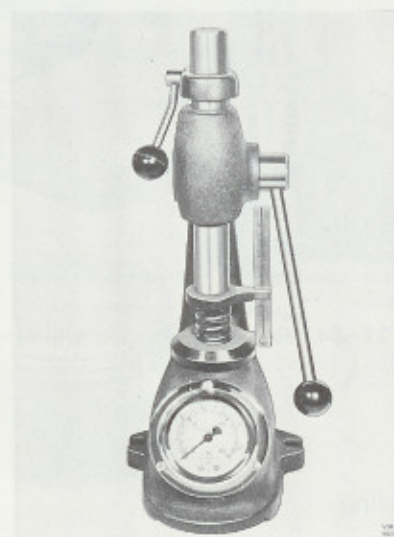

Fig. 21-23. Testing a valve spring
7. Check the valve springs with a spring tester, Fig. 21-23. If the springs are not according to the values given in the data for springs, see page 20:3, they should be scrapped.